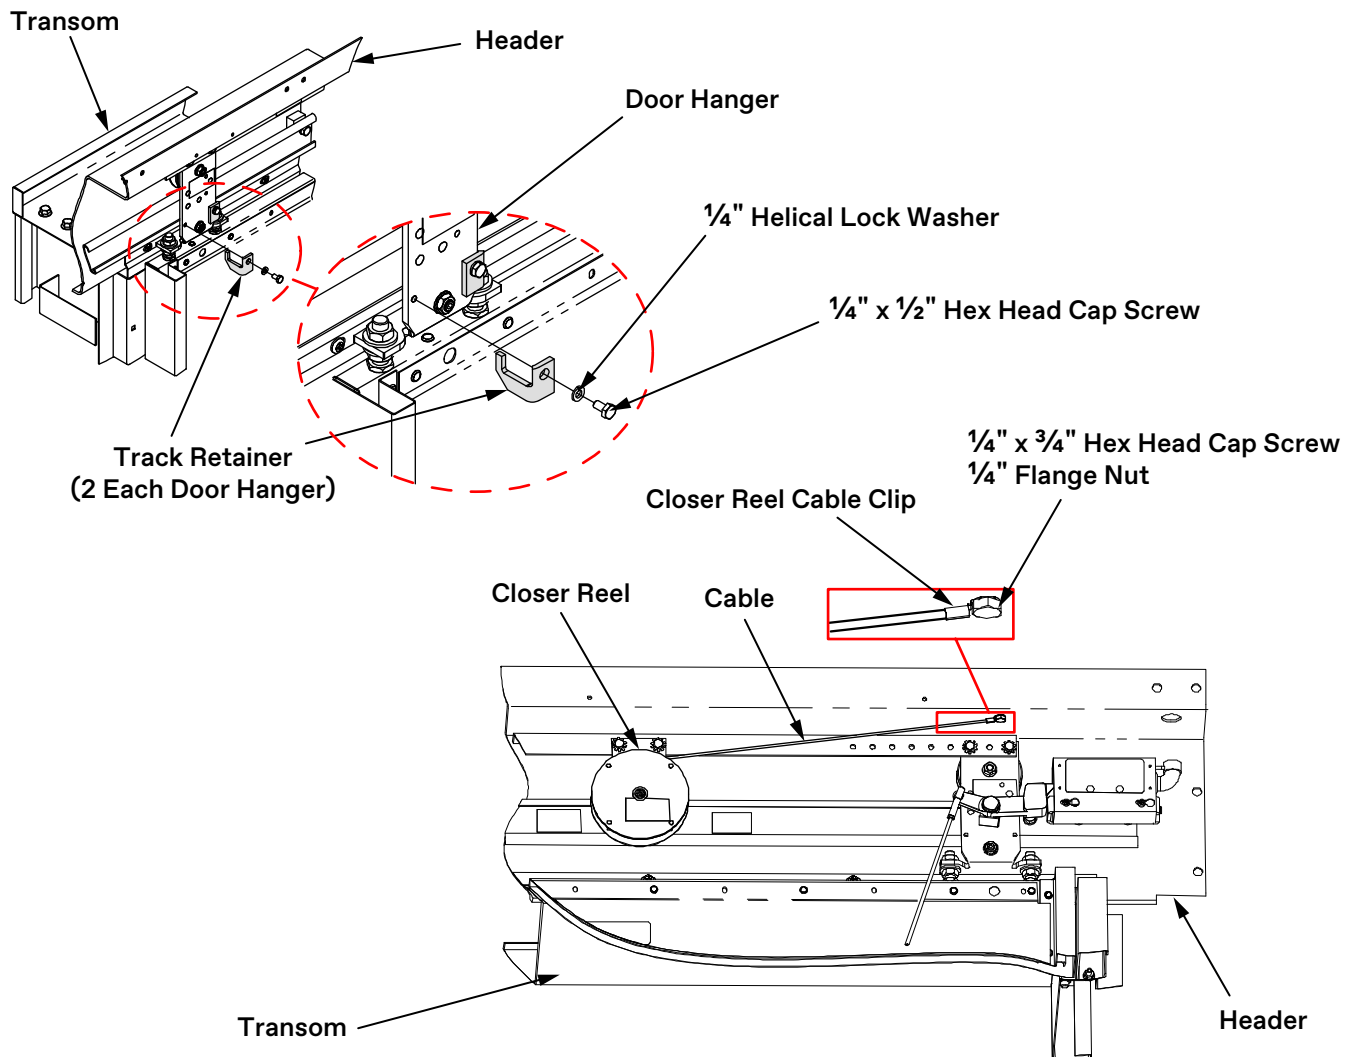

Figure 48 - Adjust Closer Reel and Install Track Retainers
1. Put 3 or 4 wraps on the closer reel, and then use a $\frac{1}{4}$ " x $\frac{3}{4}$ " hex head cap screw and a $\frac{1}{4}$ " flange nut to attach the cable to the header. See Figure 48.